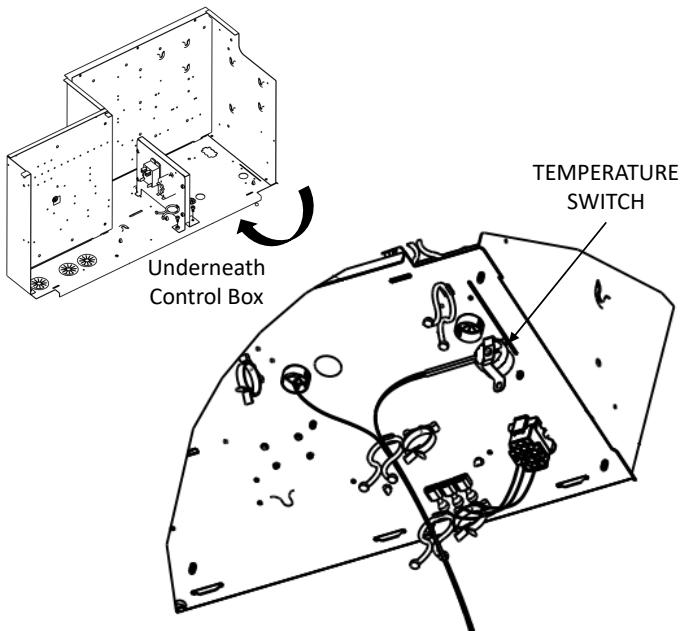

FIGURE 4
- Using one of the Cable Ties, secure the Temperature Switch to the bundle of wires running beneath the control box in the compressor compartment. See figure 4.